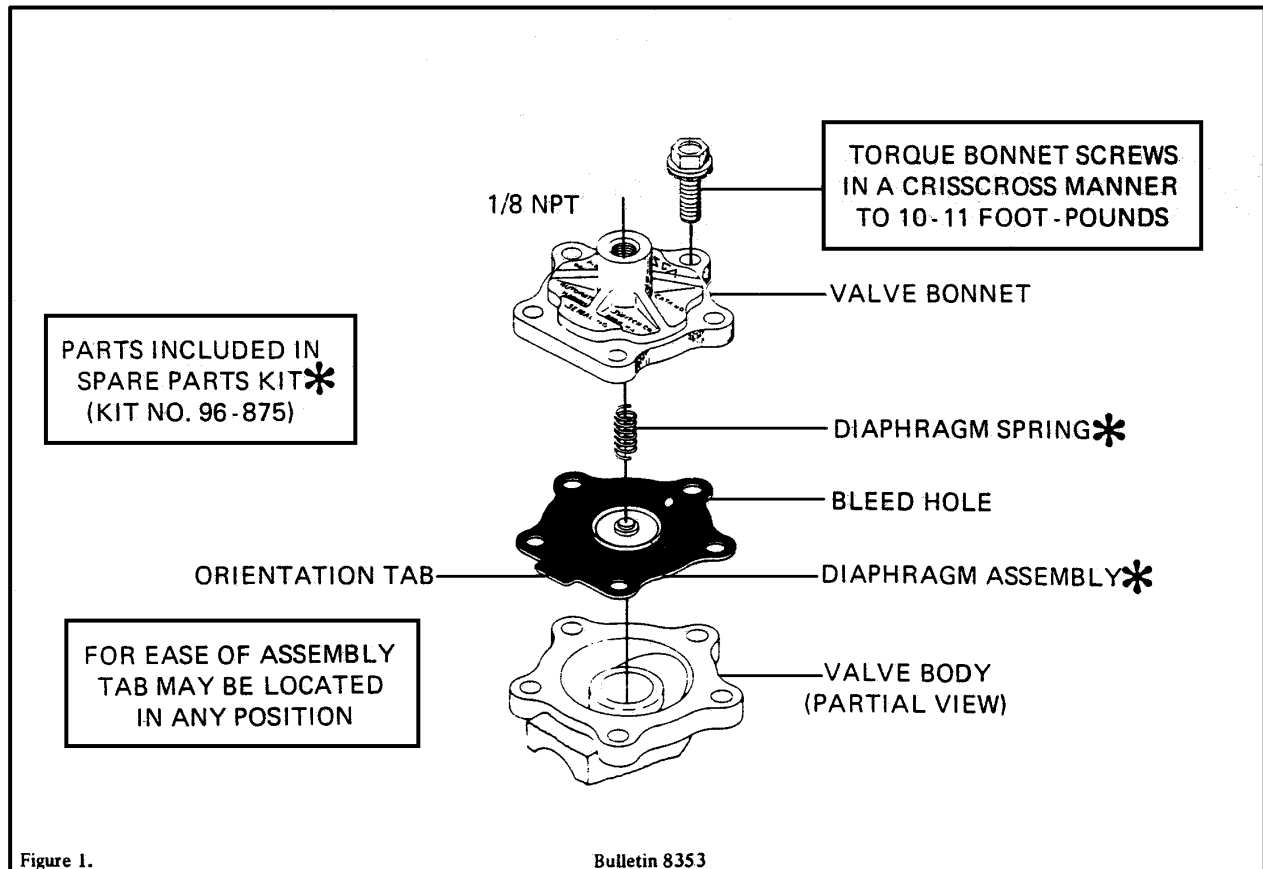

Figure 1.
VALVE DISASSEMBLY AND REASSEMBLY (Refer to Figures 1 & 2)
Note: Inlet port will either be marked "1" or "IN". Outlet port will be marked "2" or "OUT". (see Figure 1)
Two (2) M5 threaded holes are provided in the valve body for mounting. (See Figure 1)